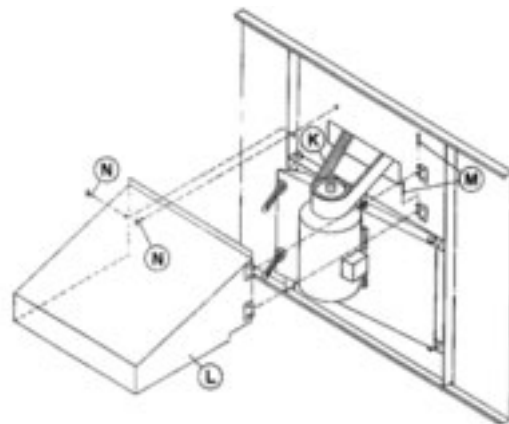

Figure 15 – Motor Guard and Powerband Belt Installation
7. Install Powerband belt **K** (Figure 15) around fan sheave and motor sheave. Tighten belt by adjusting nuts on “J” bolts. Do not over tighten the belts. The center of the belt should deflect approximately 3/4” with moderate hand pressure.
9. To install Motor Guard **L**, match up hinges and install hinge pins **M**. See Figure 15.
10. Close Motor Guard and install (2) wing bolts **N**.